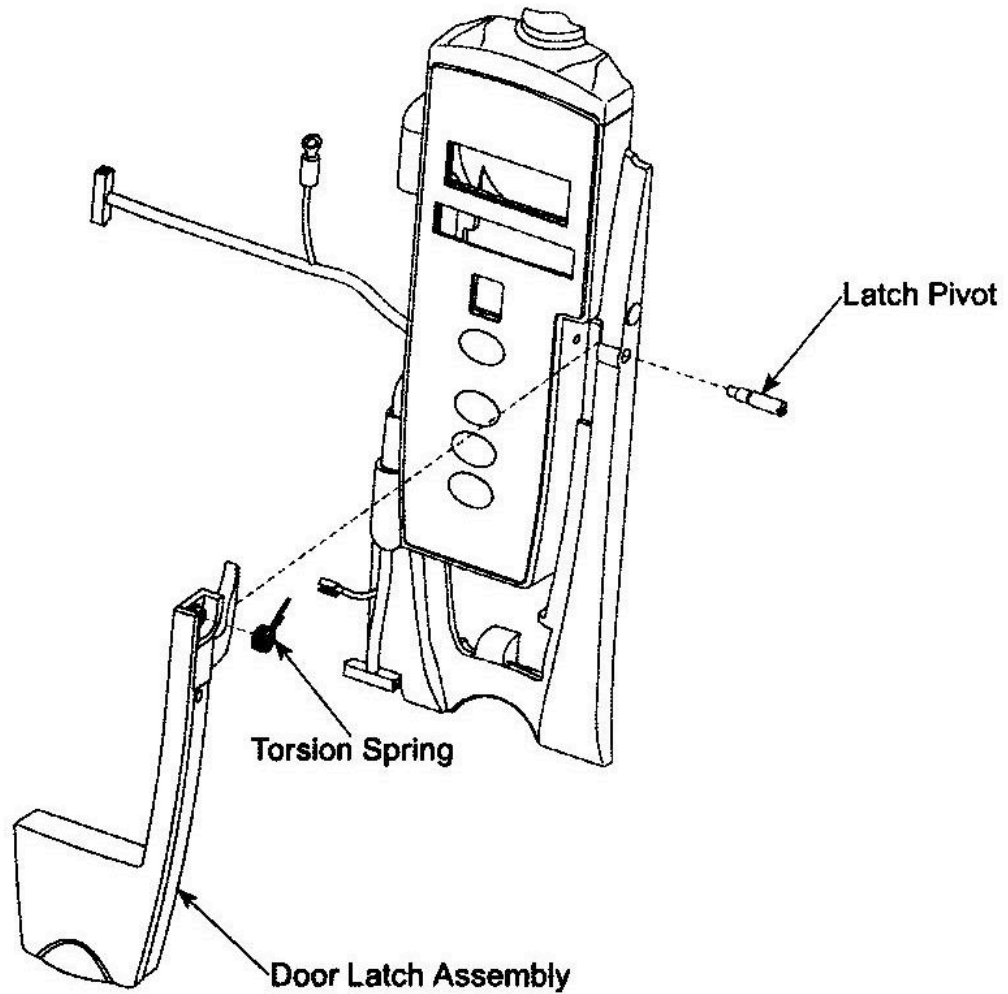

Figure 3
5. Remove Door Lever by unscrewing the Latch Pivot screw. (See Figure 3 above)